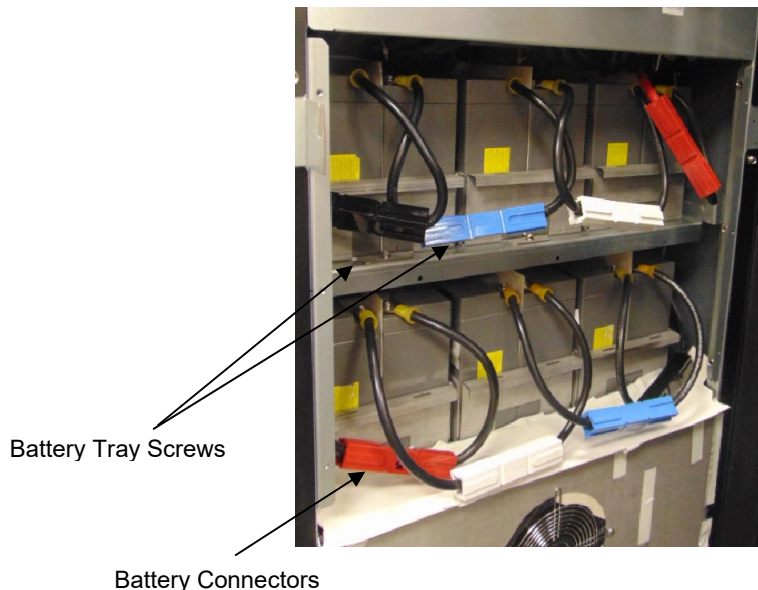

Figure 7 - UPS Internal Battery trays
3. Locate the battery connectors between the battery trays as shown in **Figure 7**.
5. The batteries are mounted into trays that bolt down to the chassis as shown in **Figure 7**. Remove all of these bolts.